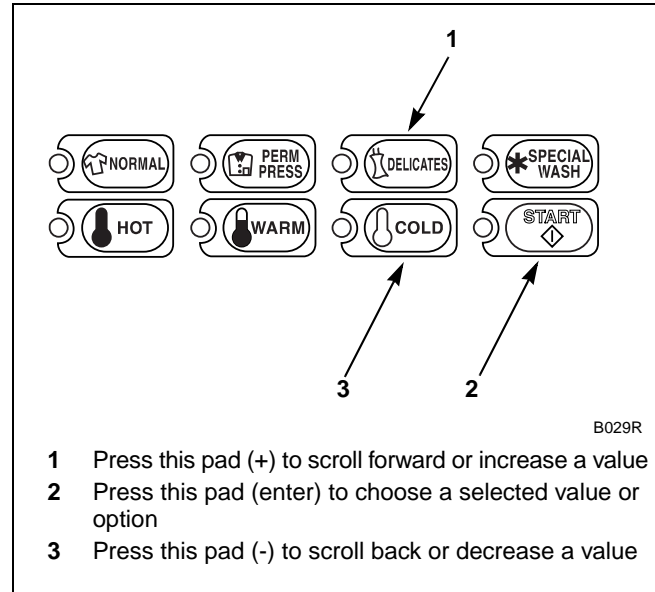

Figure 149
5. Press the DELICATES (+) or the COLD (-) keypad to increase or decrease the current output value displayed in the VFD to the desired output value. Refer to *Figure 149*.